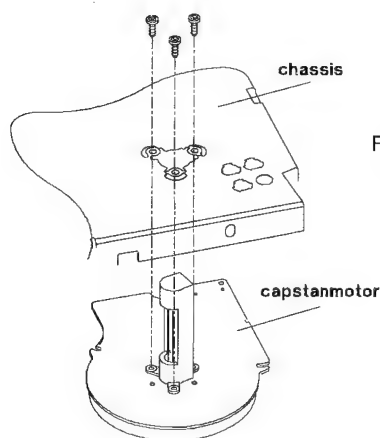

Fig. 12
- Remove the belt (pos.126) on the underside; then free the pin from the sensor print (see section 4.1.10). Lift sensor print part vertically (it is plug and socket connected to the capstan motor print). Move both sections of the sensor print clear of the capstan motor.
- Remove the three capstan motor fixing screws (Fig. 12) and withdraw the capstan motor downward from the drive assy.